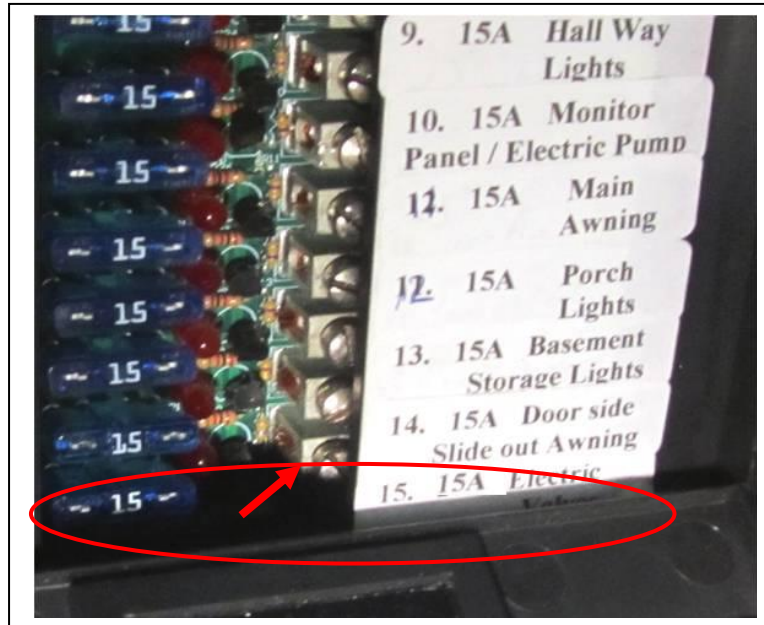

Fig. 14 – Arrow shows the spare (lowest) slot assigned to Electric valves
- **12 V supply source:** **Fig. 14** Use a spare fused slot on the RV DC distribution panel if available to provide the +12 V supply line. Label the slot 'Electric Valves'. Ground (-ve12V) can be connected as shown below in **Fig. 16** or directly to the battery.